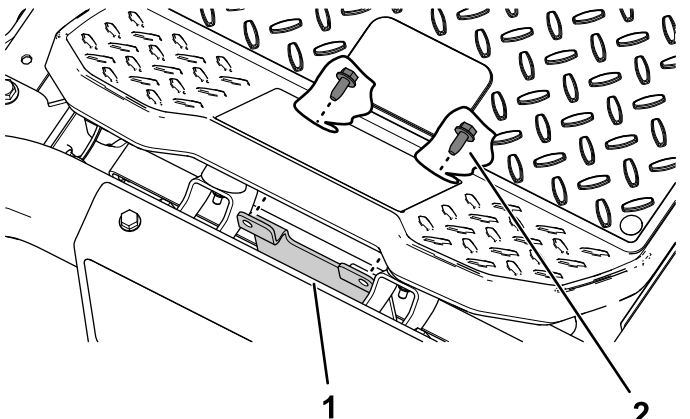

Figure 2
2. If you have a machine with a **MyRide™ platform**, install the front light bracket using the previously removed 2 thread-forming screws (5/16 x 3/4) as shown in Figure 2.